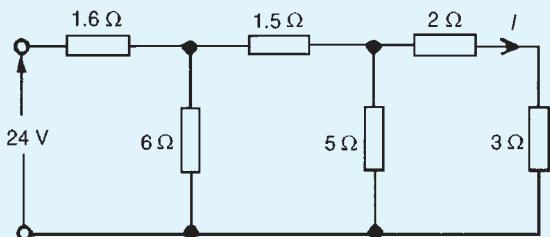

Figure 5.34
10. Find the current  $I$  in Fig. 5.34 [1.8 A]